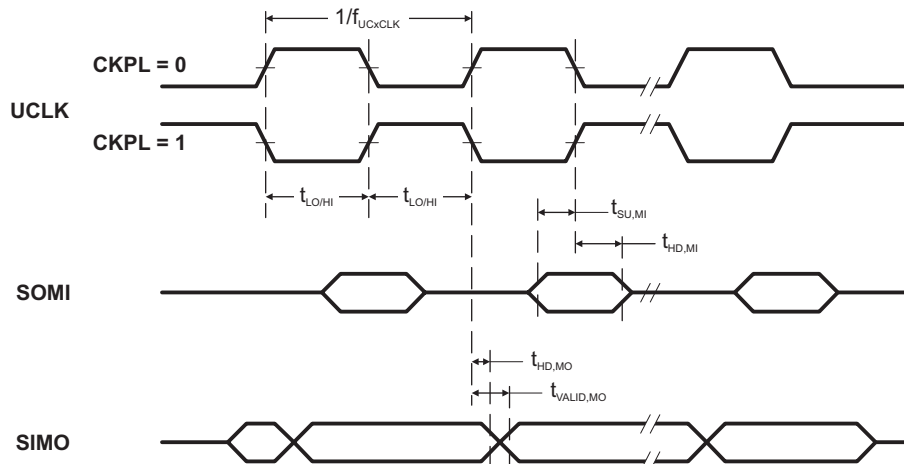
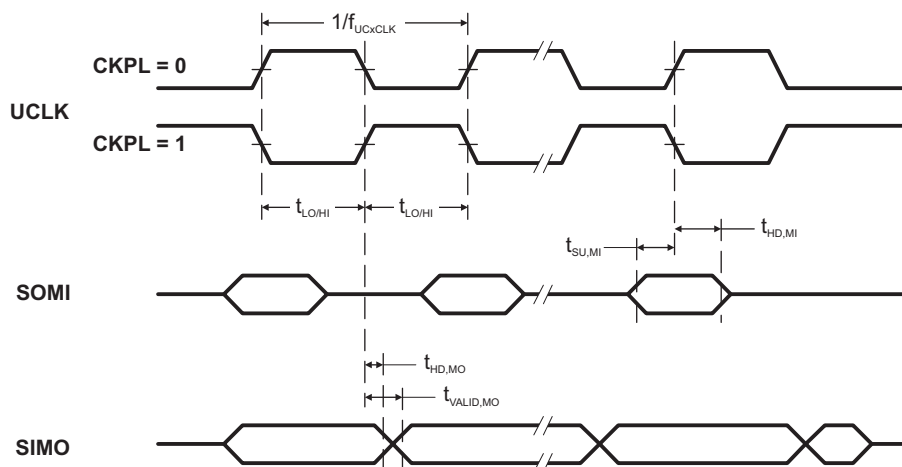

Figure 11. SPI Master Mode, CKPH = 0
Figure 12. SPI Master Mode, CKPH = 1
(see Note ⁽¹⁾, Figure 11 and Figure 12)
(2) Specifies the time to drive the next valid data to the SIMO output after the output changing UCLK clock edge. Refer to the timing diagrams in Figure 11 and Figure 12.
(3) Specifies how long data on the SIMO output is valid after the output changing UCLK clock edge. Negative values indicate that the data on the SIMO output can become invalid before the output changing clock edge observed on UCLK. Refer to the timing diagrams in Figure 11 and Figure 12.
(2) Specifies the time to drive the next valid data to the SOMI output after the output changing UCLK clock edge. Refer to the timing diagrams in Figure 11 and Figure 12.
(3) Specifies how long data on the SOMI output is valid after the output changing UCLK clock edge. Refer to the timing diagrams in Figure 11 and Figure 12.